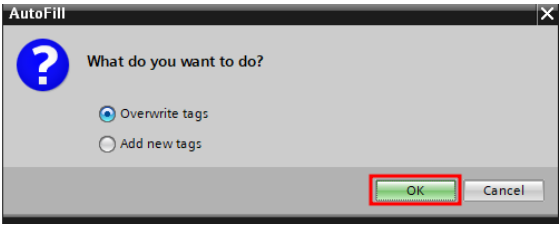

Figure 21: AutoFill Window – Overwrite Tags
55. A window will appear "AutoFill" choose "Overwrite tags" and press "OK," Figure 21.
60. When the AutoFill window appears choose "Overwrite tags" and click "OK," Figure 21.